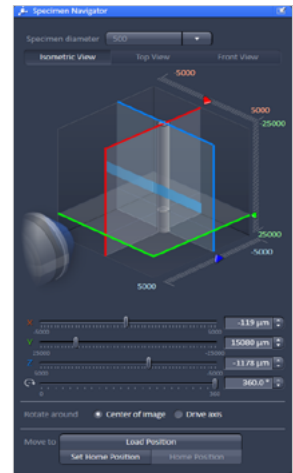
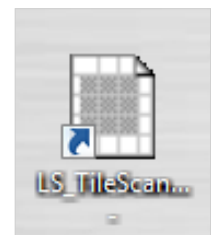

Figure 4 Specimen Navigator
Figure 5 Tile Scan Desktop Icon
1. Decide which area you wish to cover with the tile scan experiment by moving the sample with the **System Navigator** or the Ergo Drive Operating Panel. Use the position information given for x and y by the System Navigator window (Fig. 4) to estimate the total size of the area.
8. Choose a name and location to save the multiview list (.mvl file) in the opened Windows (OS) window.
9. Launch the Tile Scan Tool using the Desktop Icon. (Fig. 5, see Installation on how to generate such a Desktop Icon if not present).
12. Chose a name and location to save the multiview list (.mvl file) in the opened Windows (OS) window.
13. Launch the **Tile Scan Tool** with the Desktop Icon. (Fig. 5, see Installation on how to generate such a Desktop Icon if not present).